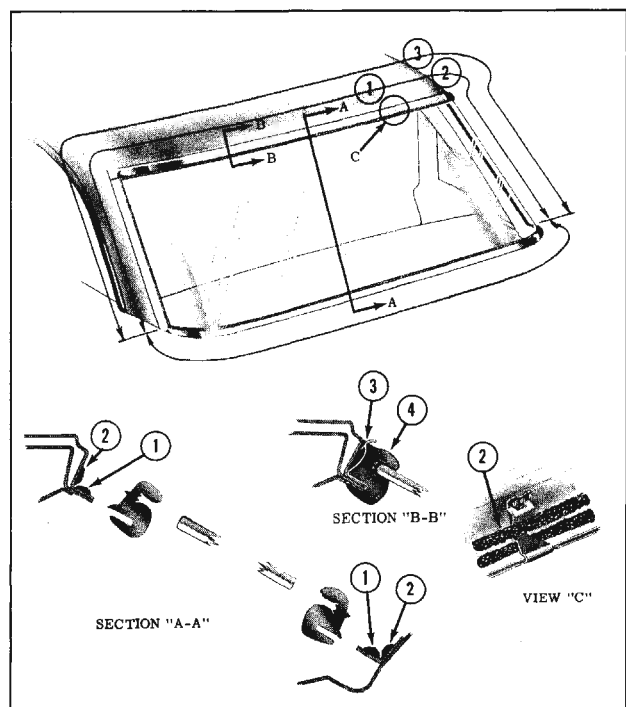

Fig. 16-299 Back Window Sealing
3. On styles using clip retained reveal moldings, check retaining clips and replace damaged or defective clips. Prior to installing clips, apply a continuous ribbon of medium-bodied sealer (approximately 1/4 inch thick) along the pinchweld and retaining flange ("1" in Fig. 16-299) completely around the opening.
4. Apply a second continuous ribbon of medium-bodied sealer (approximately 1/4 inch thick) along outer wall of back window opening ("2" in Fig. 16-299) completely around opening.
7. On styles with clip retained reveal moldings, apply sufficient medium-bodied sealer to fill void between rubber channel and body opening, up sides and across top of window ("3" in Fig. 16-299).
8. Using a pressure type applicator, apply an approved weatherstrip adhesive (black) between outer lip of rubber channel and glass ("4" in Fig. 16-299) completely around rubber channel.